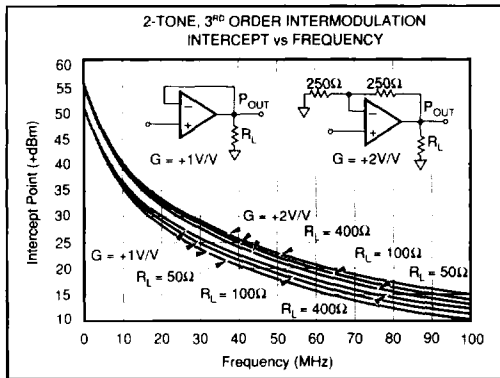

FIGURE 9. 2-Tone, 3rd Order Intermodulation Intercept vs Frequency.
Two-tone third-order intermodulation distortion (IM) is an important parameter for many RF amplifier applications. Figure 9 shows the OPA620's two-tone third-order IM intercept vs frequency. For these measurements, tones were spaced 1MHz apart. This curve is particularly useful for determining the magnitude of the third-order IM products as a function of frequency, load resistance, and gain. For example, assume that the application requires the OPA620 to operate in a gain of +2V/V and drive 2Vp-p into 50Ω at a frequency of 10MHz. Referring to Figure 9 we find that the intercept point is +40dBm. The magnitude of the third-order IM products can now be easily calculated from the expression: